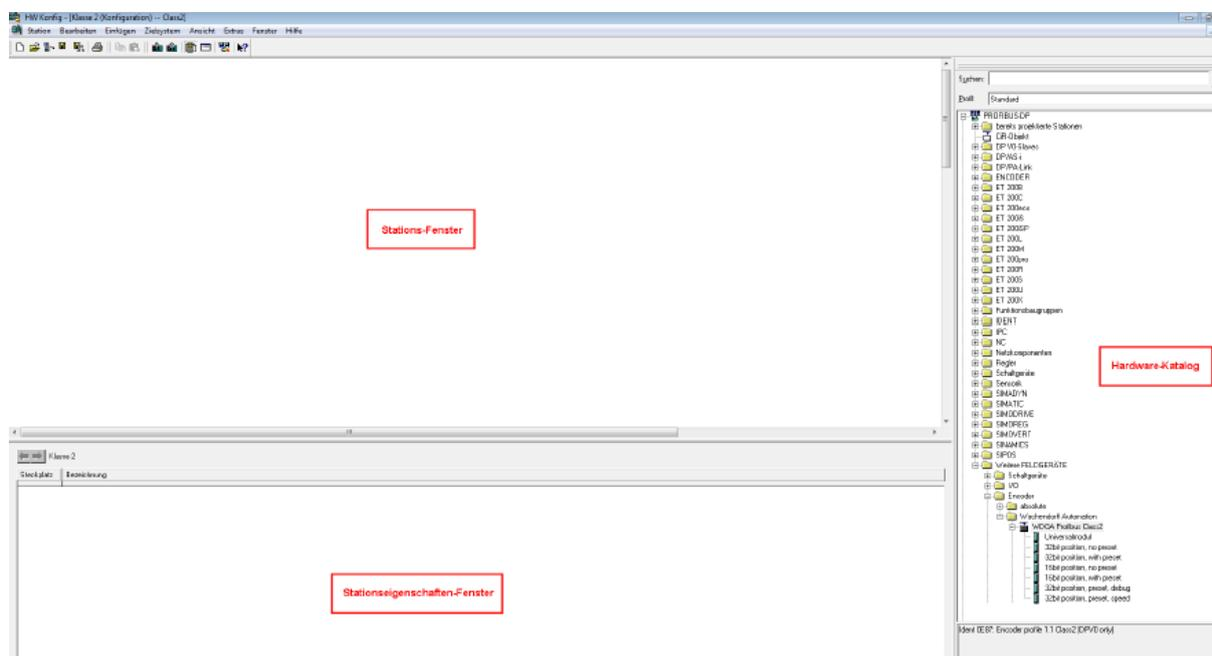

Figure 5.2: Hardware Configurator - STEP 7
- In the "Hardware Catalogue" at "PROFIBUS-DP", "Other field devices", "Encoder", "Wachendorff Automation", "WDGA PROFIBUS ClassX" (X = 2 or 4), the WDGA encoder appears (see Figure 5.2).